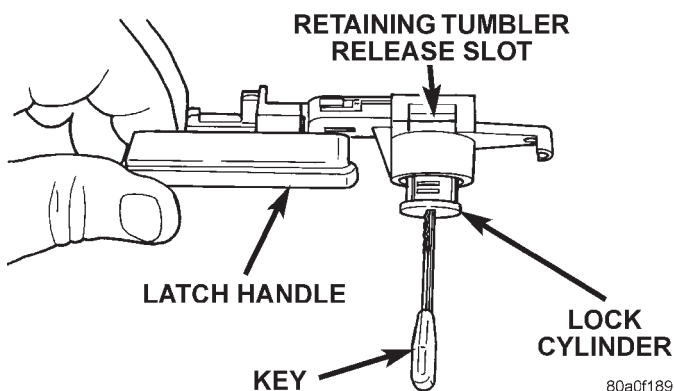

Fig. 21 Glove Box Lock Cylinder Remove/Install
(1) Remove the glove box latch and handle from the glove box. See Glove Box Latch and Handle in this group for the procedures.
(2) Insert the glove box key into the glove box lock cylinder.
(3) Insert a small screwdriver into the retaining tumbler release slot and depress the retaining tumbler (Fig. 21).